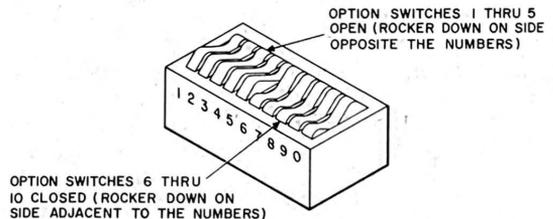
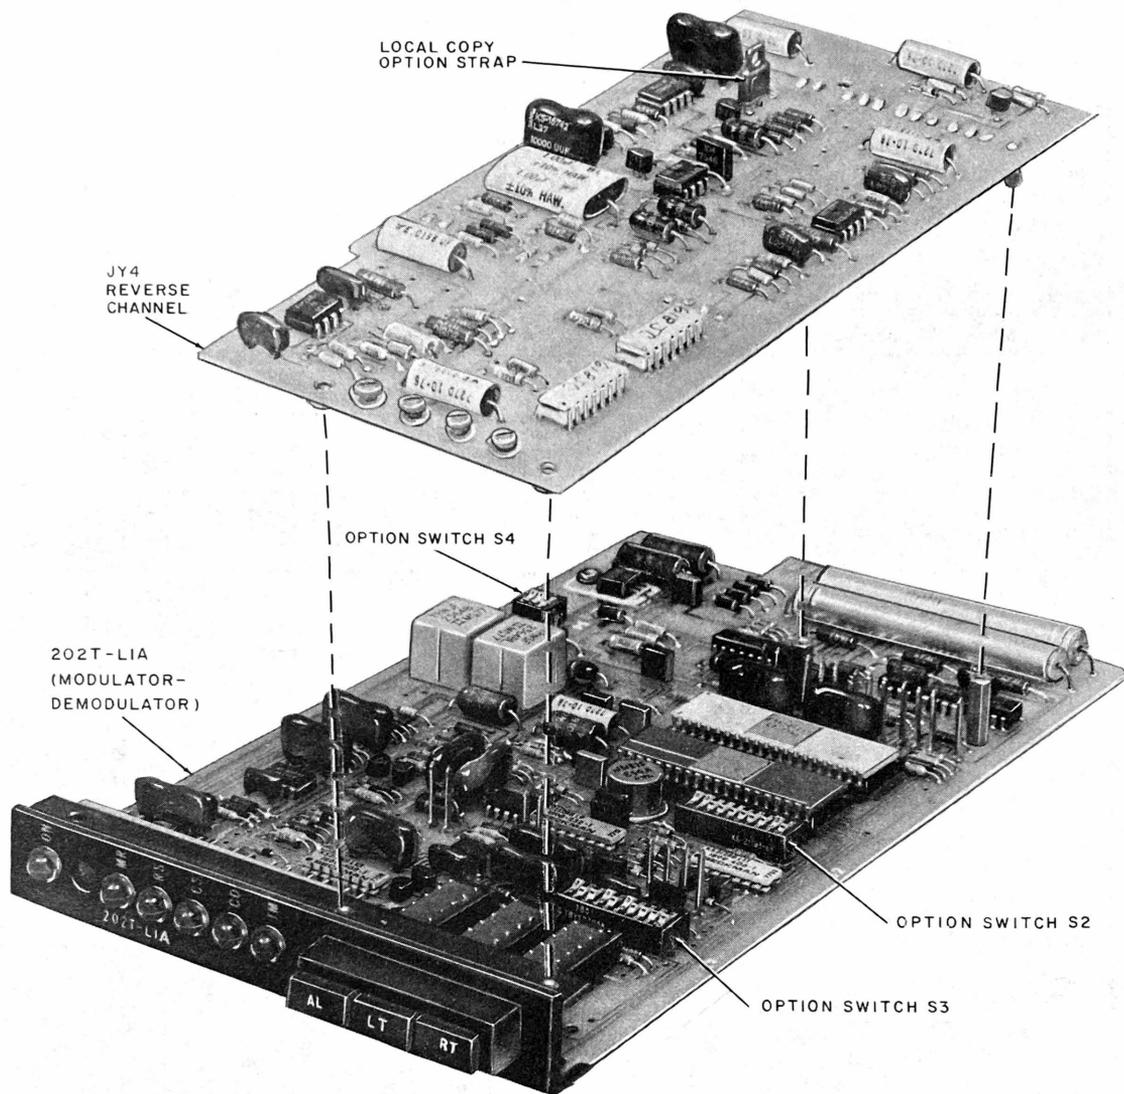

Fig. 1—Option Switch
Fig. 2—Location of Option Switches
2.02 ⚠Options are installed and removed by means of switches (Fig. 1) and straps (DS 202T-L1 only) on the data set printed wiring board (Fig. 2), by a strap on the reverse channel circuit pack (when provided), and by a screw switch on the backplane (frame ground to signal ground option). Refer to Table A or B for the switch settings and strap positions for the various options. Refer to Table C for the recommended options for a DS 202T-type used on 2-wire private line or 4-wire private line with talk-back. Refer to Table D for the recommended options for a DS 202T-type used on 4-wire point-to-point and multipoint systems without talk-back.